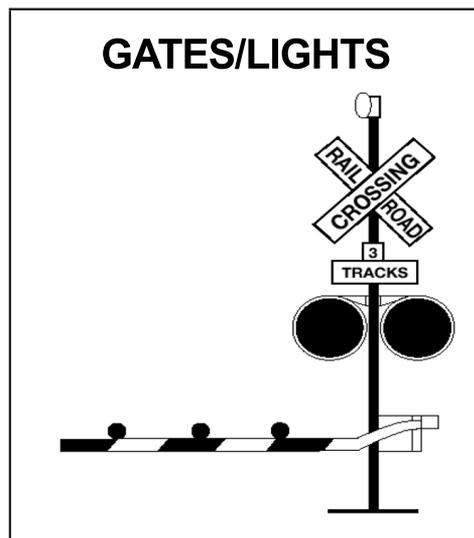

Figure 10.8
**Flashing Red Light Signals.** At many railroad-highway crossings, the crossbuck sign has flashing red lights and bells. When the lights begin to flash, you must stop! A train is approaching. You are required to yield the right-of-way to the train. If there is more than 1 track, make sure all tracks are clear before crossing. See Figure 10.8.
**Gates.** Many railroad-highway crossings have gates with flashing red lights and bells. Stop when the lights begin to flash and before the gate lowers across the road lane. Remain stopped until the gates go up and the lights have stopped flashing. Proceed when it is safe. If the gate stays down after the train passes, do not drive around the gate. Instead, call your dispatcher. See Figure 10.8.